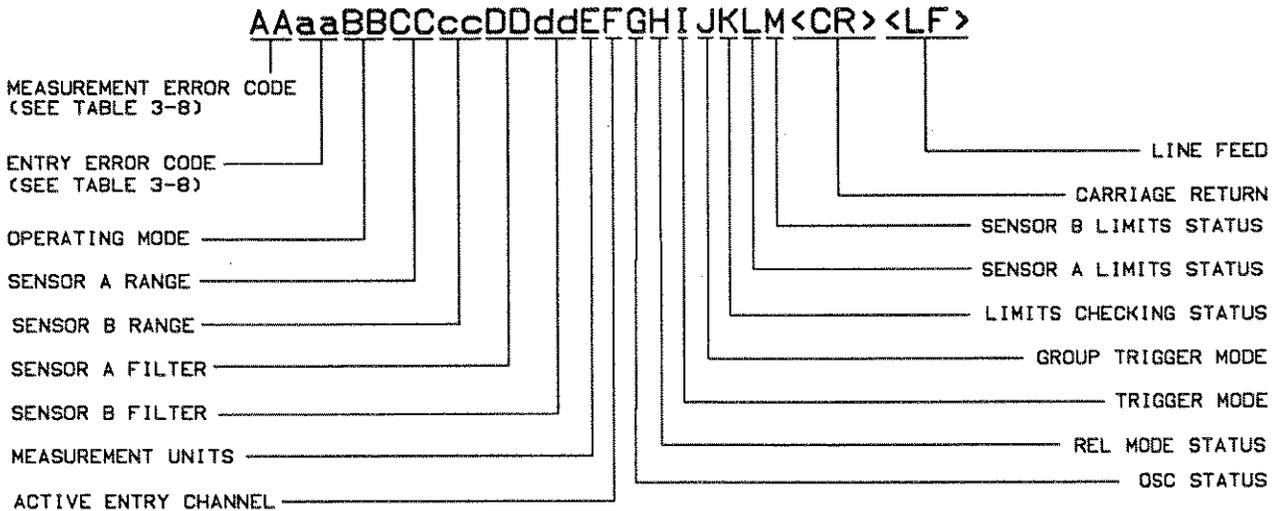

Figure 3-6. Status Message Output Format
**Status Message.** This function enables the power meter's current state to be read under program control. After receiving an SM program code (Status Message) and when addressed to talk, the power meter sends a string of 23 ASCII characters followed by carriage return (CR), line feed (LF), and EOI. The Status Message is updated only after a measurement. The Status Message can be interpreted with the information shown in Figure 3-6.